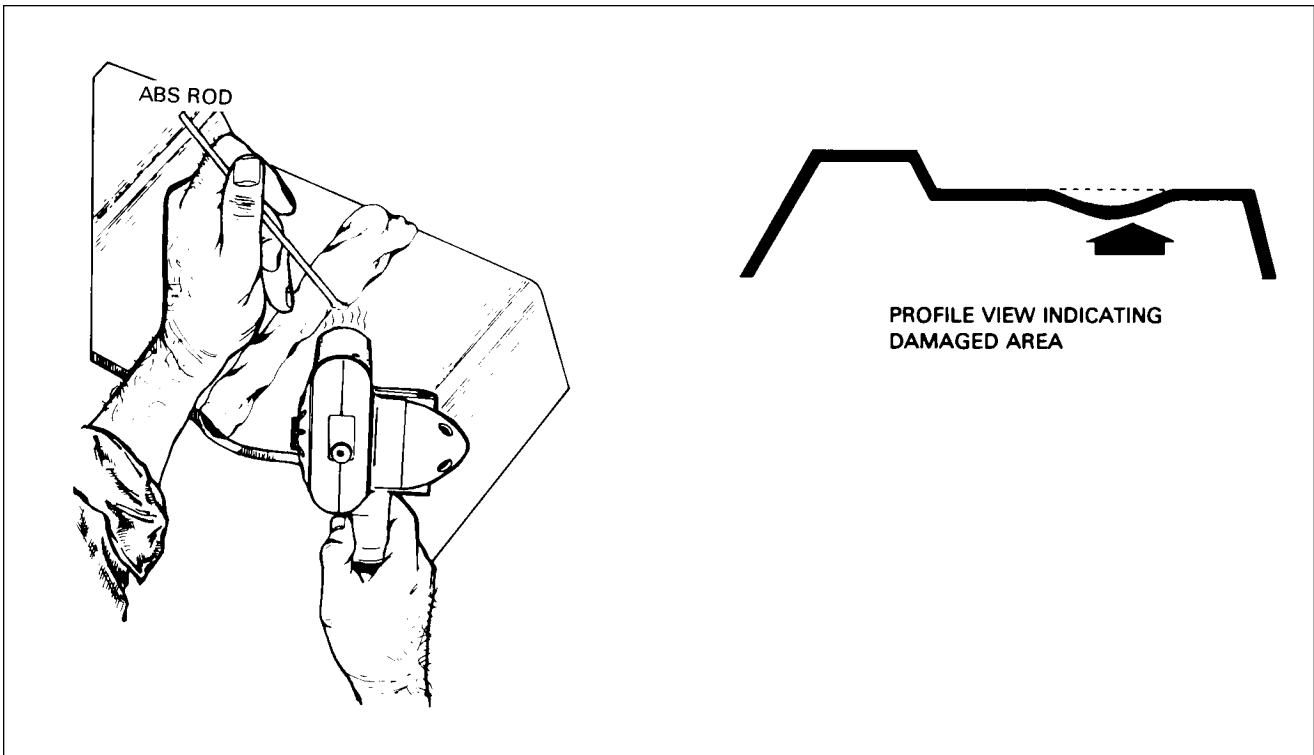

Figure 51-9. Repair of Impacted Damage
- A. Stress lines produce a whitened appearance in a localized area and generally emanate from the severe bending or impacting of the material. (Refer to Figure 51-9.)